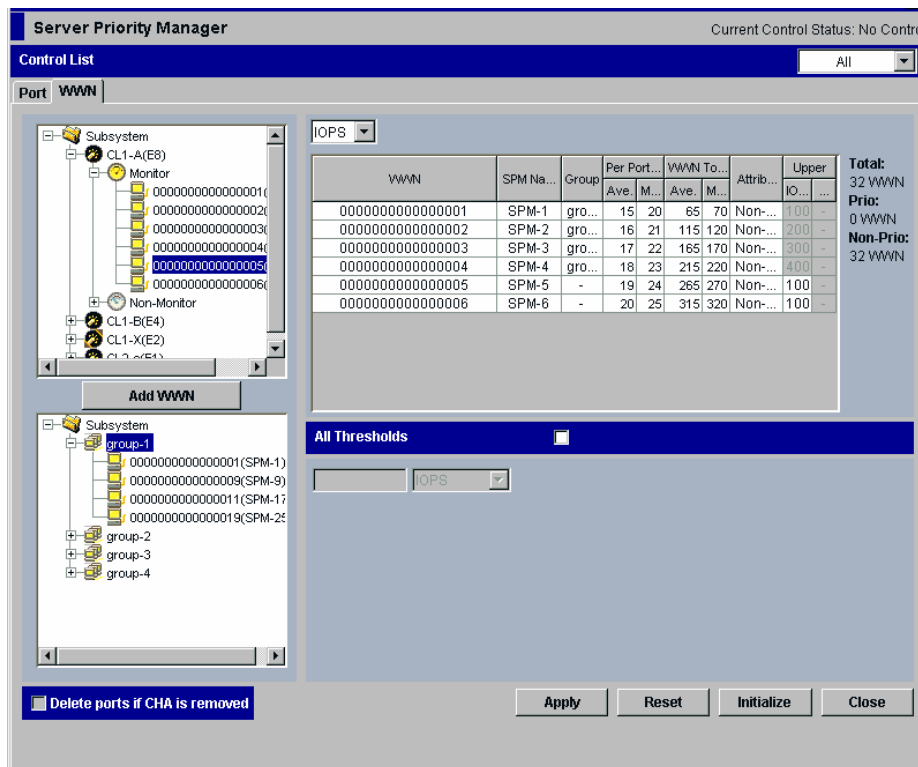

Figure 8.2 WWN Tab of the Server Priority Manager Window
- Use the **WWN** tab (Figure 8.2) if many-to-many connection is established between host bus adapters and disk subsystem ports. For details on operations in the **WWN** tab, see section 8.4.